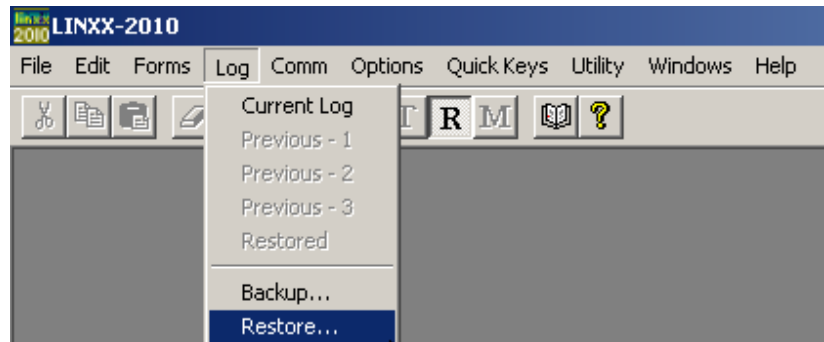

Figure 6.3 Log Menu - Restore
2. In LINXX-2010, click the **Log** menu item (see Figure 6.3).